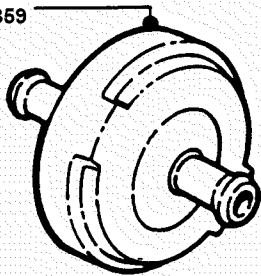

FIGURE 3.12
3. Install new fuel filter part number 1-4359. See Figure 3.12.